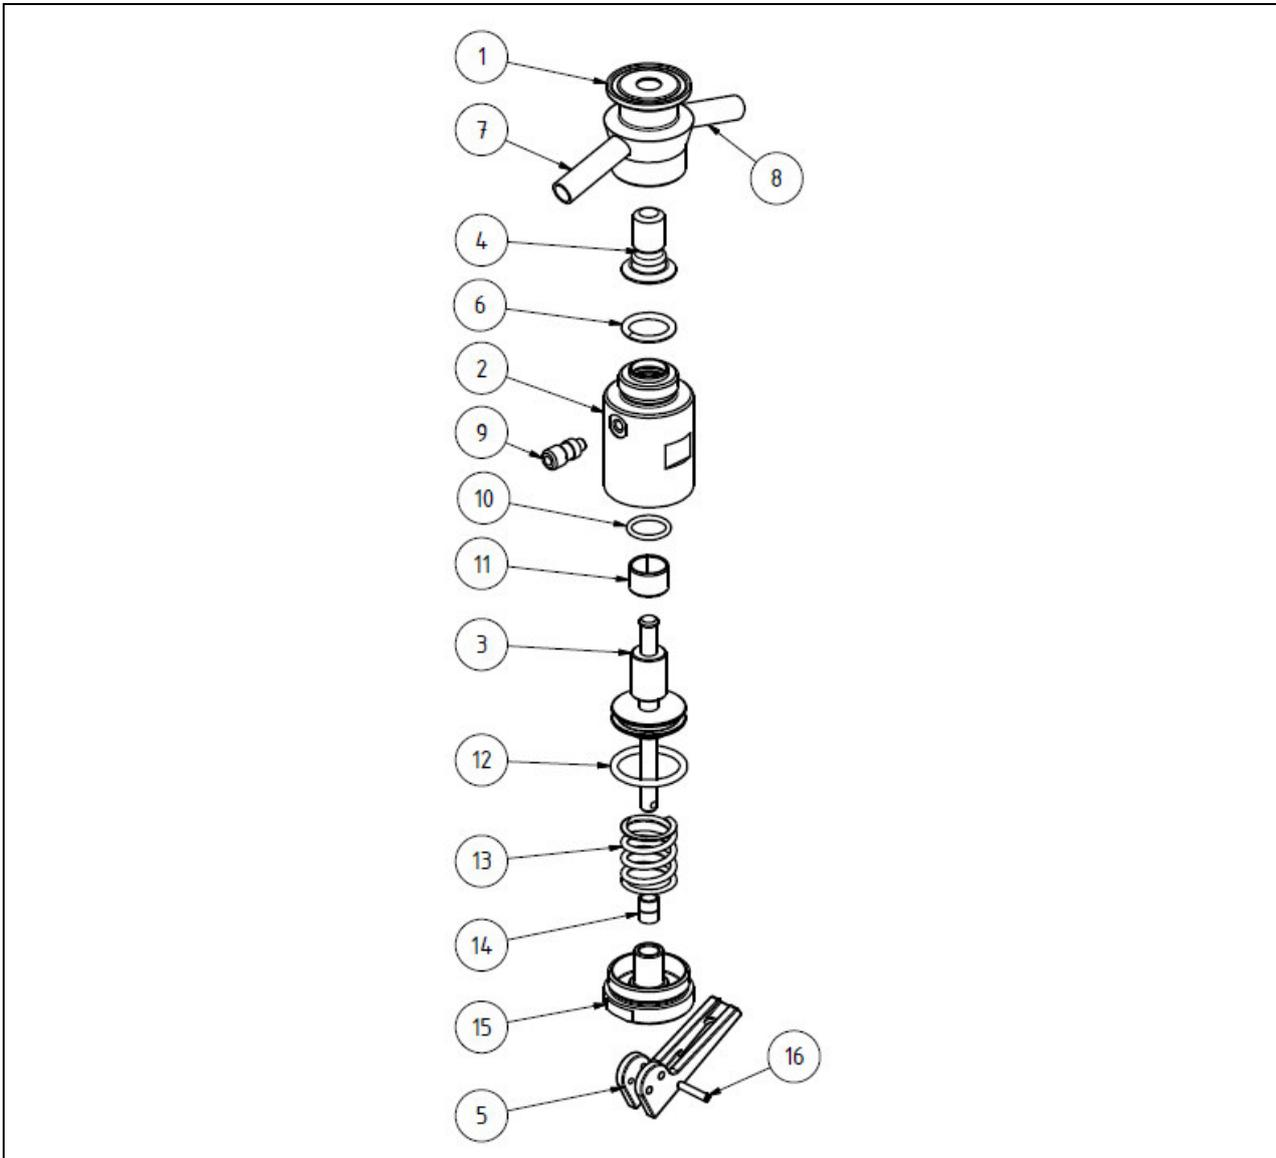

Fig. 6-1: Setup PNV compact air
- Disconnect the air hose from the air connection (Fig. 6-1, item 9) of the pneumatic cylinder (Fig. 6-1, item 2).
- Unscrew the pneumatic cylinder (Fig. 6-1, item 2) from the housing (Fig. 6-1, item 1).
- Remove the diaphragm seal (Fig. 6-1, item 4) from the chuck on the piston (Fig. 6-1, item 3).
- Push the lever (Fig. 6-1, item 5) into the “Open” position.
- Remove the O-ring (Fig. 6-1, item 6).
- Check the new diaphragm seal (Fig. 6-1, item 4) for damage.
- Check the O-ring (Fig. 6-1, item 6) for damage.
- Place the O-ring (Fig. 6-1, item 6) on the pneumatic cylinder (Fig. 6-1, item 2).
- Place the diaphragm seal (Fig. 6-1, item 4) on the chuck of the piston (Fig. 6-1, item 3).
- Press the diaphragm seal (Fig. 6-1, item 4) onto the chuck using a vise. The gasket must audibly snap into place.
- Screw the entire assembly group onto the housing (Fig. 6-1, item 1). To secure the screw connection, use a medium-strength thread-locking fluid (e.g. Loctite 243).
- Release the stud screw (Fig. 6-1, item 16) and pull it out of the lever (Fig. 6-1, item 5).
- Position the lever (Fig. 6-1, item 5) in the desired position for variant A or variant B and make sure that the holes in the lever and cross holes in the piston (Fig. 6-1, item 6) are aligned.
- Insert the stud screw (Fig. 6-1, item 16) into the larger of the two opposite holes in the lever (Fig. 6-1, item 5) and push it in as far as it will go.
- Screw in the stud screw (Fig. 6-1, item 16), then continue under pressure, so that it cuts into the material of the lever (Fig. 6-1, item 5).